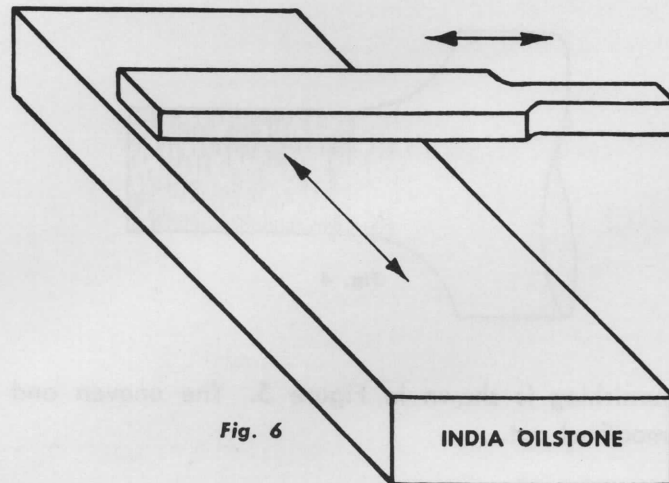

Fig. 6
1. Place the burnisher flat on the oilstone which is covered with a thin film of light machine oil. Figure 6. It should be stroked at an angle of about 90° to the edge of the stone. While using the lengthwise stroke, an in and out stroke along the length of the burnisher should also be carried out. This technique will make sure that the entire surface of the burnisher will be affected. Stone all four sides.